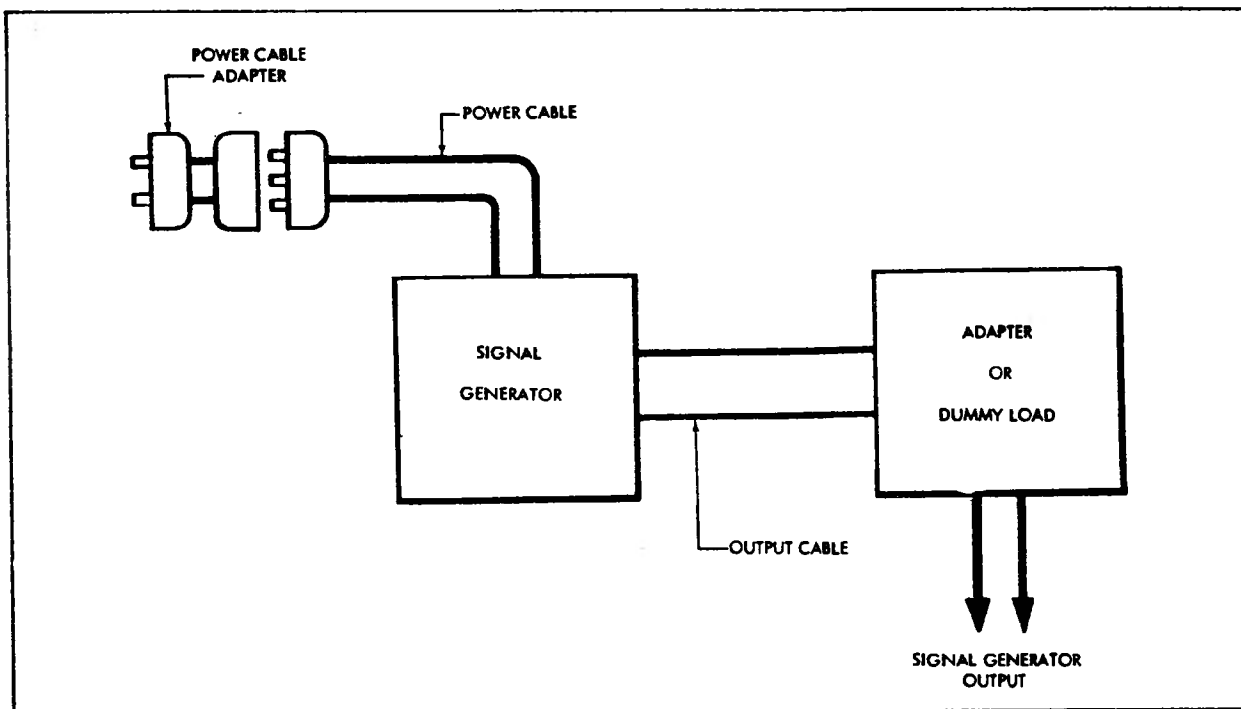

Figure 2-2. Cabling Diagram
2-3. CABLING ARRANGEMENT (See fig. 2-2)
- (2) Repair of cables (see figure 2-2) to establish circuit continuity.